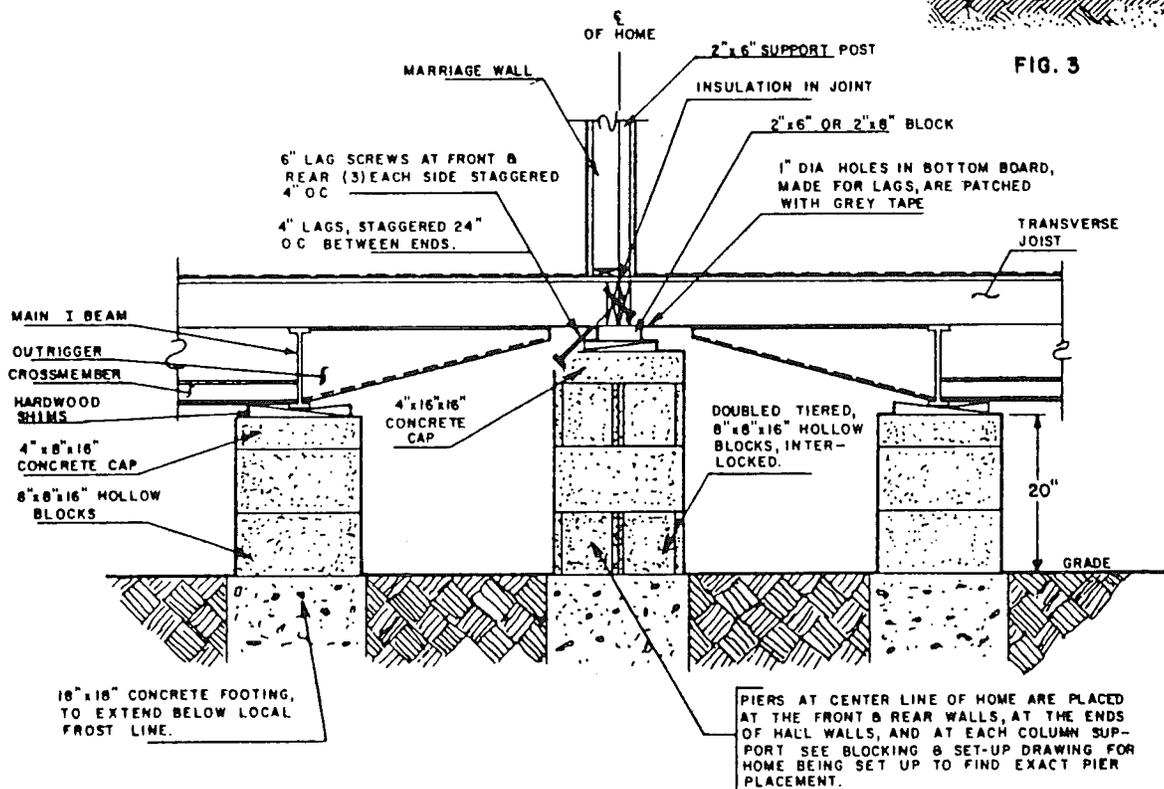

FIG. 2
The recommended height above grade for a single pier supporting the main I beam is 20". Piers located at the centerline of the front and rear walls and along the marriage walls are 30" high. These piers must be double tiered with blocks interlocked and capped with 16"x16"x4" solid concrete blocks. Unless they are designed by a registered, professional engineer or architect, piers should never exceed 36" in height. See fig. 2 for details.
Before lag screwing the units together, check to be sure that the floors are level at the mating line perimeter joists. This can be accomplished by adjusting the hardwood shims placed between the I beams and piers. See fig. 2.
1. Lag the mating line perimeter joists with 4" lag screws toe-nailed and staggered 4' o.c. between each end. At each end are three 6" lag screws spaced 4" o.c. (see fig. 2). Be sure that the strip of insulation is in place between the joists.